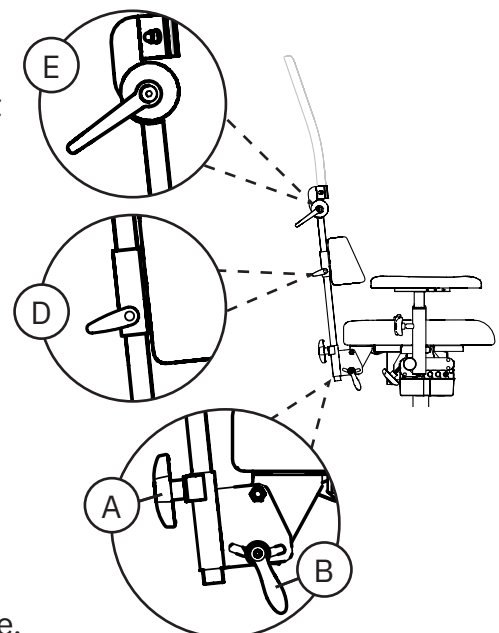

Figure 5.9. High Backrest with adjustable cushion and headrest in Makrolon.
The Standard X-ray backrest mechanism's back support is adjustable in terms of height (A) and the angle of the backrest mechanism is adjustable (B). The back support also has a height-adjustable lumbar support cushion (D) and an angle-adjustable headrest (E) (see Figure 5.9).